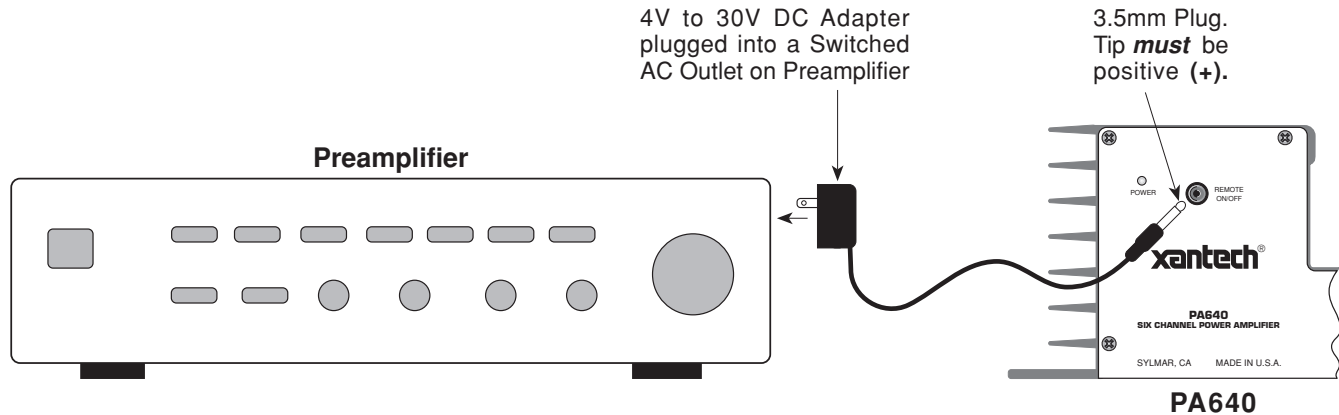

Fig. 8 REMOTE ON/OFF Jack Connections
As mentioned under "PA640 PANEL DESCRIPTIONS", the REMOTE ON/OFF jack allows the power to the PA640 to be turned ON and OFF by a remotely applied DC Voltage. Figs. 8 and 9 are typical applications using this feature.
Fig. 8 illustrates how a PA640 can be switched ON and OFF via the switched AC outlet on the rear of a preamplifier. When the preamplifier Power Switch is switched ON, power is applied to the DC adapter which in turn applies 4V to 30V DC to the PA640, switching it ON. Similarly, when the preamplifier is switched OFF, the DC voltage to the PA640 is removed, turning it OFF.
1. Power Indicator does not light – no sound.	<ul style="list-style-type: none"> • Check line cord for good contact in a live AC outlet. • If REMOTE ON/OFF jack is used, be sure applied voltage is between +4V and +30V DC with proper polarity. See Fig. 8.